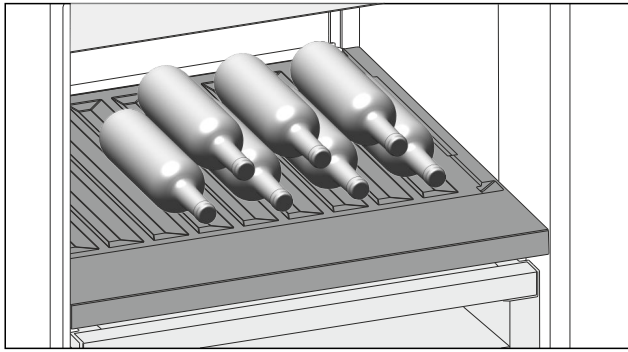

Fig. 157
- ▶ Place bottles in the back row with their bases against the back wall. (see Fig. 157)